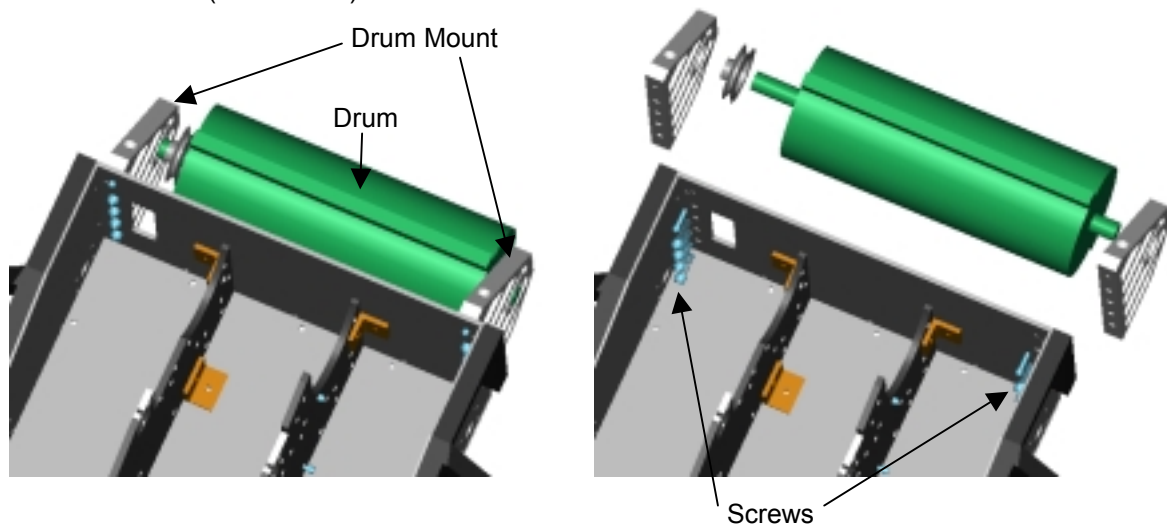

Figure 5.3 – Drum and Mount Assembly
The drum consists of hollow steel cylinder that is welded on each end with a shaft running through the middle. A sprocket is attached to the shaft. The drum assembly is held in place with two drum mounts that are in turn, bolted to the rear of the Bot as seen in Figure 5.3. The shaft spins in two roller bearings that are press fit into the mounts. To release the tension in the drum belt, the drum motor must be removed (Section 5.1).
1. Place the sprocket on the long end of the shaft as shown in Figure 5.3 and snug set screw.